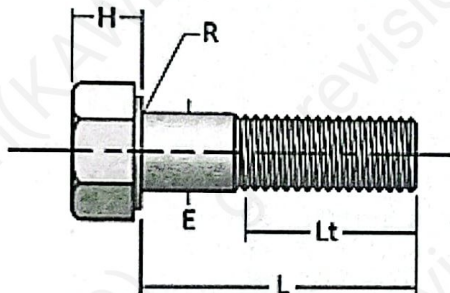

Figure: 23
41. Referring to the threaded fastener in figure 23 below, L and Lt represent